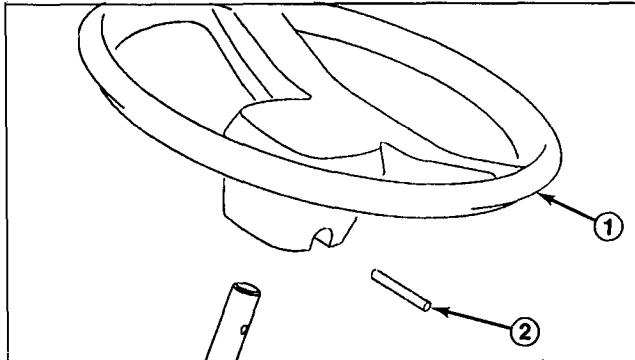

Figure 1
2. Slide steering wheel onto steering shaft aligning mounting holes (Fig. 1).
3. Secure steering wheel in place with roll pin (Fig. 1).